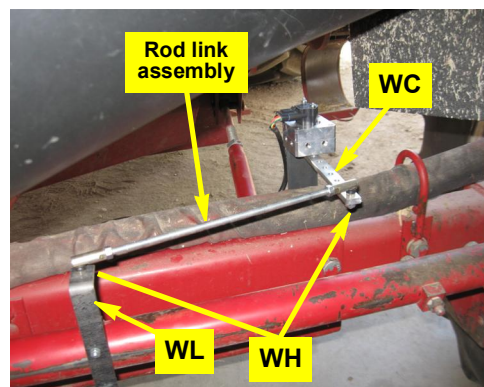

Figure 2d: WAS link rod assembly installed
- d. Using hardware **WH**, install the rod link assembly from step 1 between the last hole in connector arm **WC** and bracket **WL**. Set the swivel studs downward at both ends (Figure 2d). Leave swivel nuts **WH** loose.